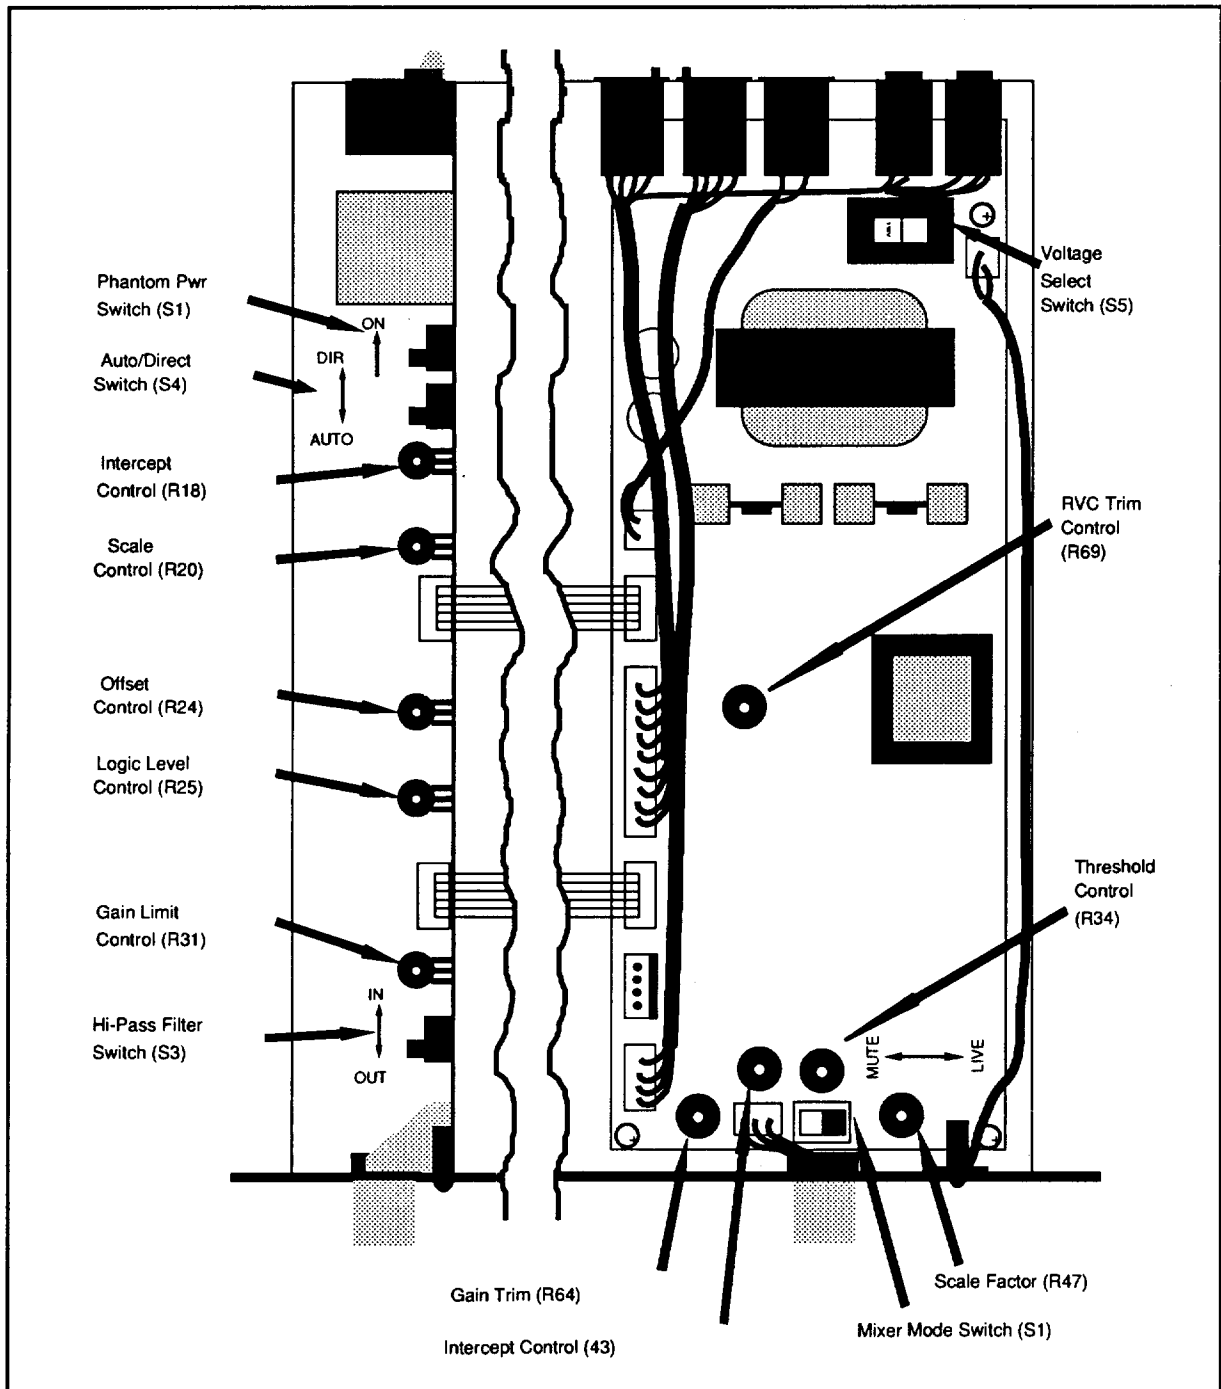

Figure 11: Location of components for alignment procedures.
1. Set the external switches and controls as follows. (Refer to Figure 11.)
5. Monitor the DC voltage on the Link In connector (positive on pin 5 and common on pin 4). Verify the voltage is $+10.00 \pm 0.1$ Vdc. If necessary adjust the INTERCEPT trimpot (R43). See Figure 11.
- d. Adjust SCALE trimpot (R47) for a Reference Output voltage of the resulting sum in Step c. See Figure 11.